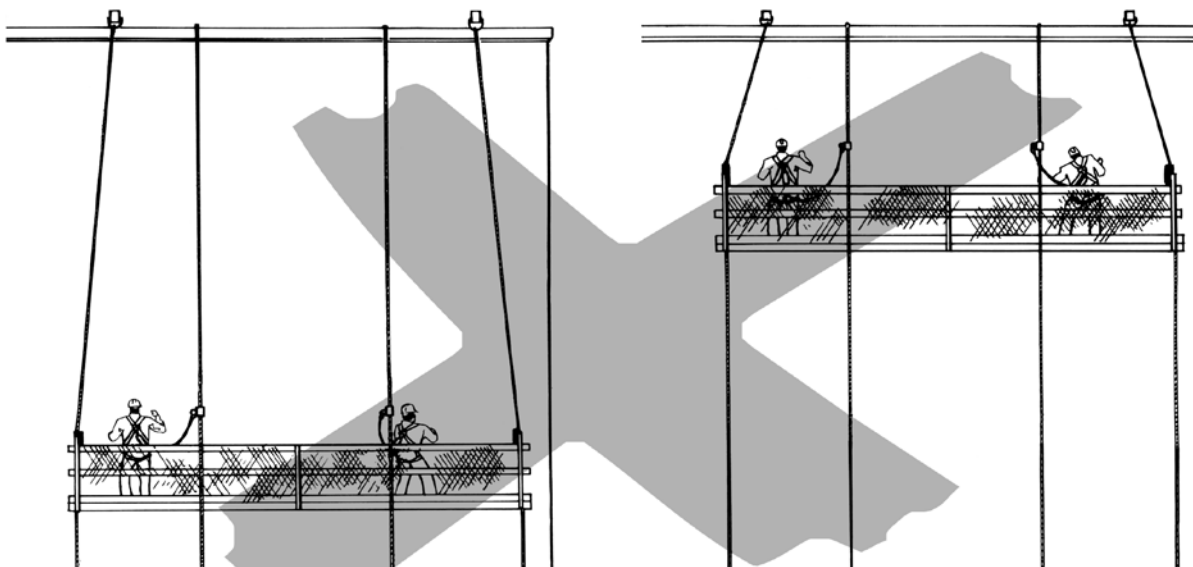

Figure 27:
- set the same distance apart as the stirrups on the stage. Otherwise, as the stage goes up, the angle of suspension lines increases, causing dangerous side loads (Figure 27).